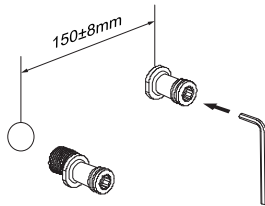

Figure 2
b) Wrap the teflon tape anticlockwise on the thread of the G1/2 end of the curved connector ⑪, connect them to the hot and cold water outlets by a wrench. Leave suitable depth out of the wall and adjust the distance between 2 connectors according to the width of the inlet on the thermostatic shower bar (Figure 2).